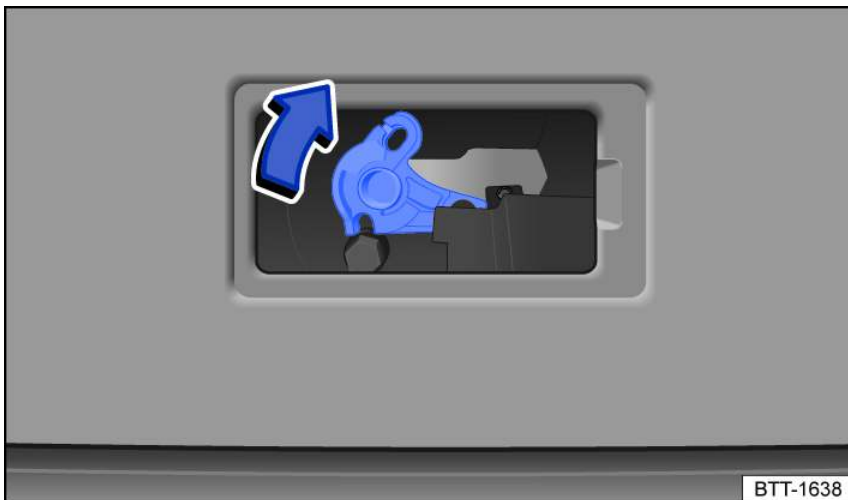

Fig. 56 In the luggage compartment: trunk lid emergency release.
2. Place a suitable object in the opening for the release lever fig. 56 and press in the direction of the arrow to release the trunk lid.